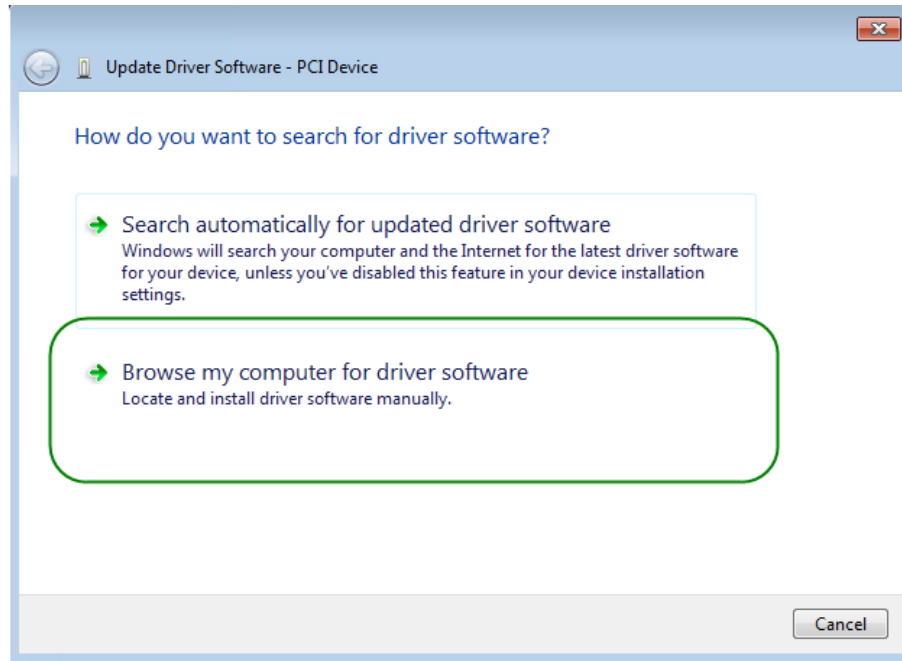

Figure 7-5 Dialog of Browse my computer for driver software
8. In the **How do you want to search for driver software** dialog, click **Browse my computer for driver software** item, as shown in **Figure 7-5**. Click “OK” and then “Exit” to close the installation program.